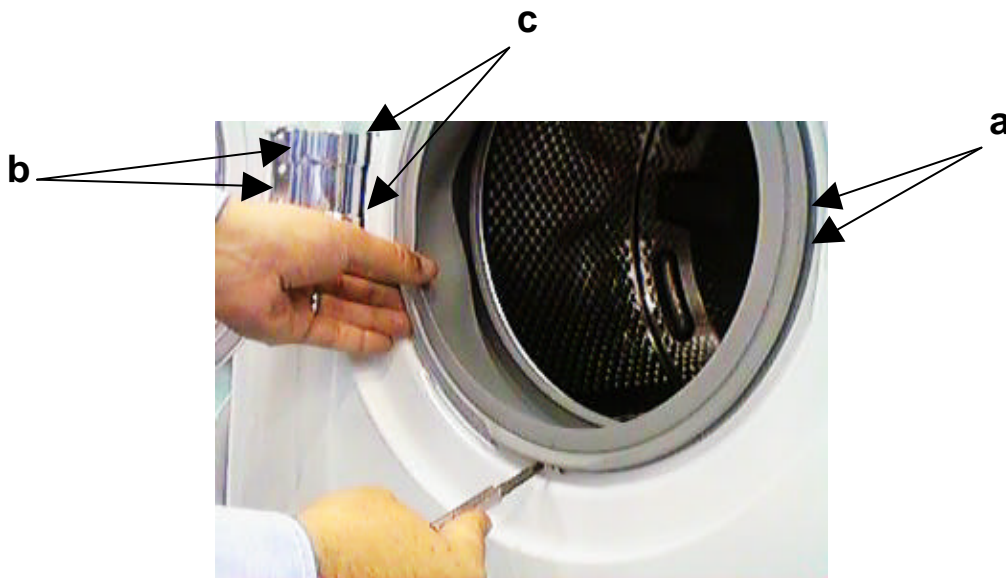

Figure : 1
- The bellow clamp that fixes the bellow to the front panel is taken off using the special pliers (figure 1).
- Bellow clamp that fixes the bellow to the front panel is removed (figure 1)
- Bellow is disassembled from the front panel (figure 1)
- Two screws that attach the safety lock to the body are unscrewed (figure 1/a)
- Front panel is removed (figure 1,2,3)
- Front panel is disassembled (figure 1,2,3)